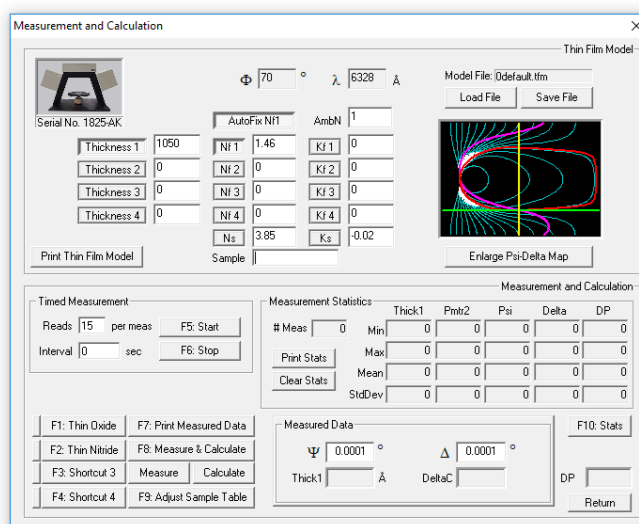

Figure 3
7.5 Run the GEMP measurement program. Enter the measurement and calculation window by clicking on the GEMP program toolbar (see Fig 3).
- 9.1 Depress the “Print Measured Data” button or press F7 to print Psi & Delta and the two solutions (if there are calculated solutions) into the GEMP print area window (see Fig 3)